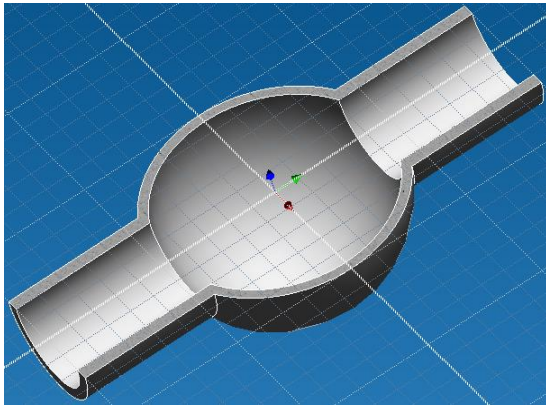

Fig. 1.1 Solid model
**Solid model** is a certain volume of any configuration filled with elastic material (Fig. 1.1). The basic way to create a solid model is to carry out operations (extrude, revolve, etc.) on **closed flat contours** (see Chapter 4).